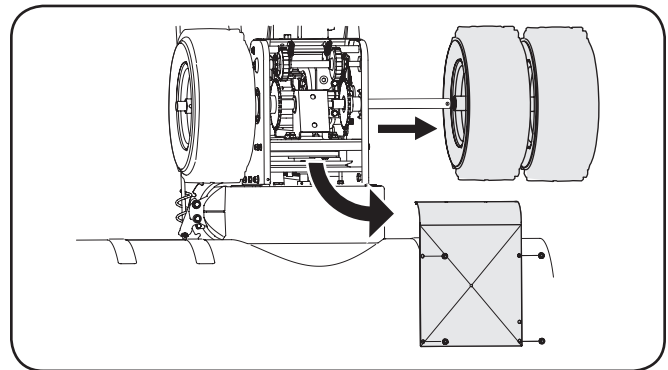

Figure 7-9
- Remove screws from the frame cover underneath the snow thrower (refer to Figure 7-9). Remove the right wheels from the axle.